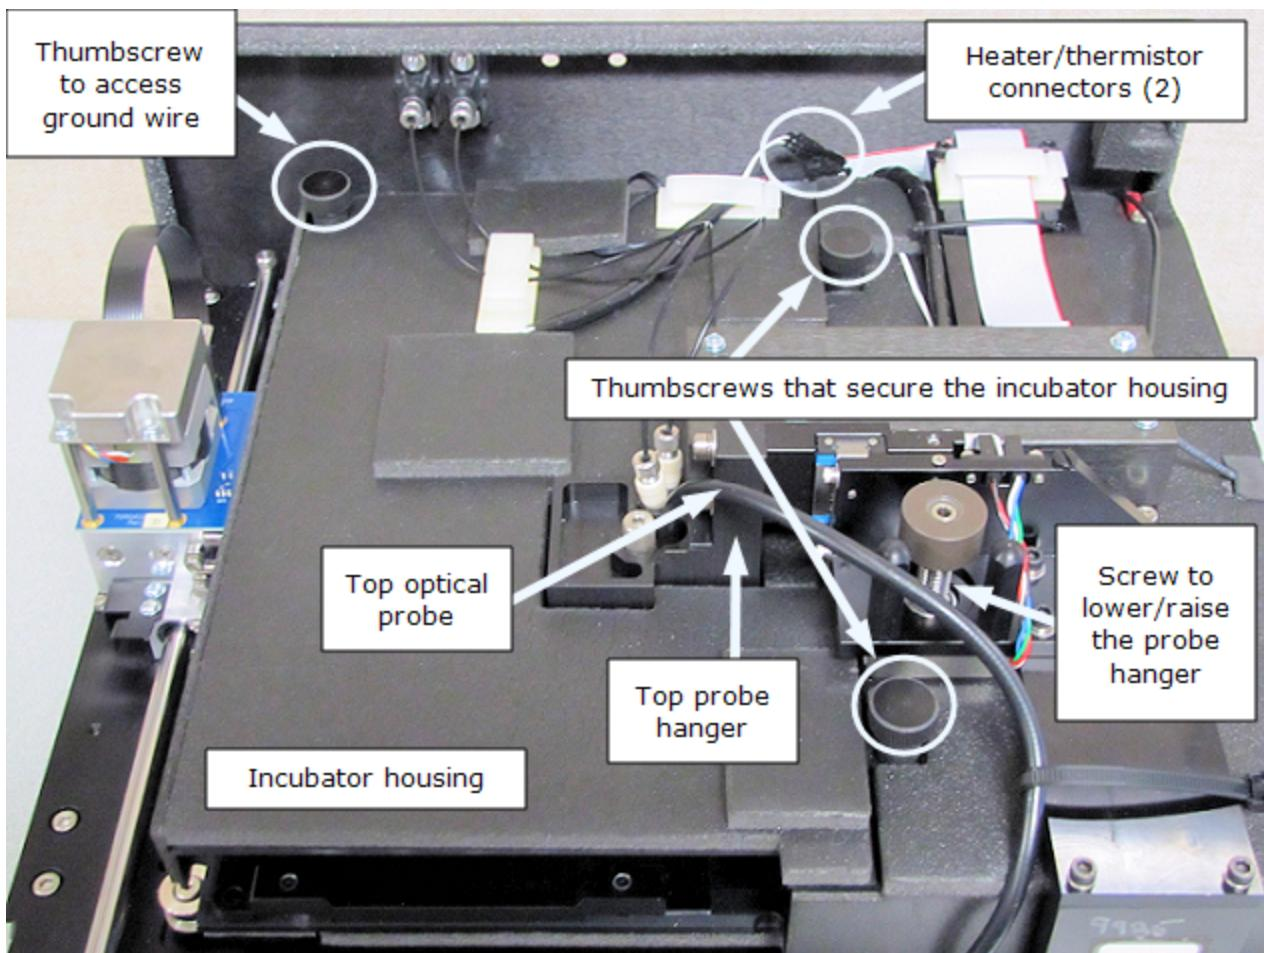

Figure 4-8: Internal components discussed in this section
- Review Figure 4-8 to identify the components described in this section.